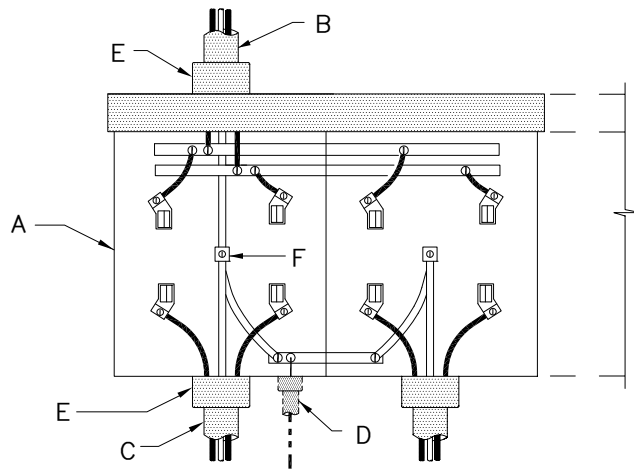

FIGURE 4
- MULTIPLE POSITION 1-PHASE, 3-WIRE 120/240V SERVICE METER (SEE FIGURE 4)